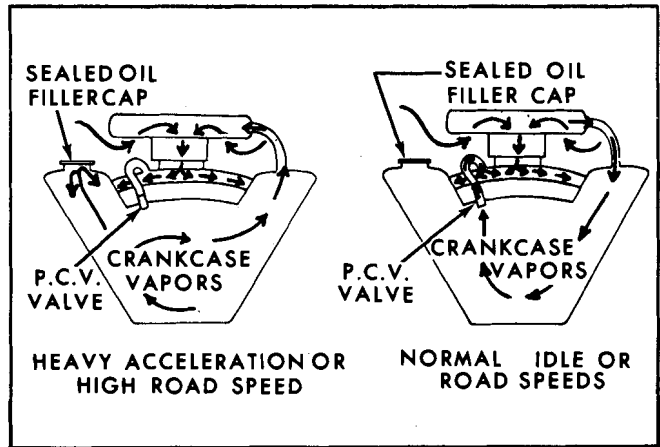

Fig. 6D-4 Schematic Flow Chart-P.C.V. System - Typical (V-8).
The P.C.V. valve is located in the front of the push rod cover (V-8 except 307), the front of the left rocker arm cover (307) and on the rear of the rocker arm cover (6-cyl.) and is connected to the intake manifold by a rubber hose (Fig. 6D-1, 6D-2, 6D-3). An additional hose from the air cleaner connects to the rocker arm cover.